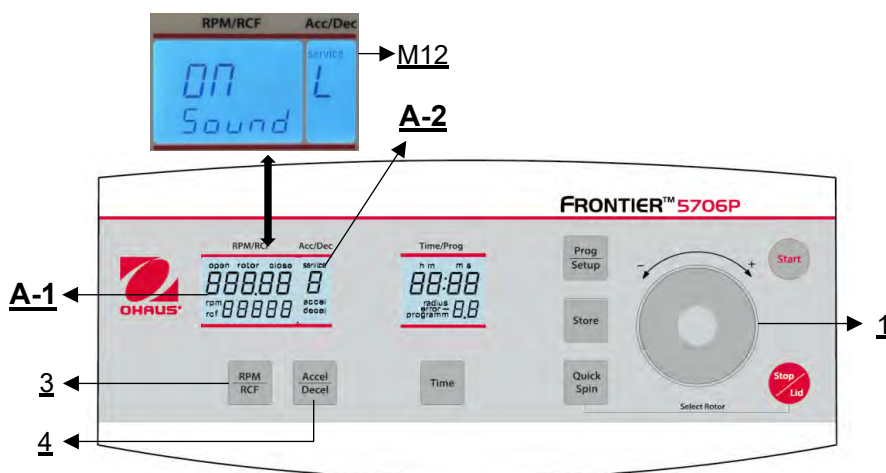

Figure 30
Proceed as described under point 4.1.1 to enter this program mode and then press the key **"Accel/Decel"** (4). In the display **"Acc/Dec"** (A-2) the word **"Service"** (M12) flashes. Now select the letter **"L"** with the touch wheel (1). As a result, the words "On Sound" appears in the display **"RPM | RCF"** (A-1). If you press the key **"RPM | RCF"** (3) now, the word **"On"** flashes and you can switch off the sound with the touch wheel (1) (see Figure 30).